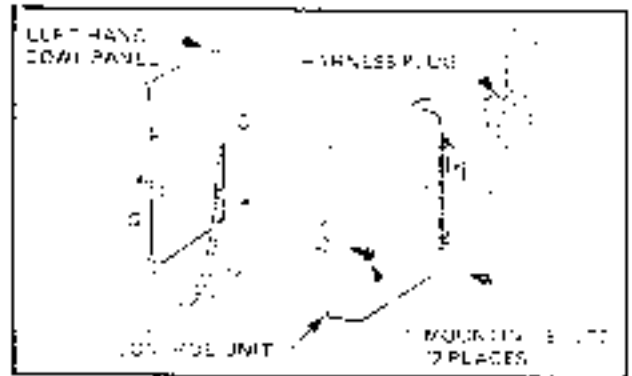

Figure 6C-96
4. Disconnect the wiring harness plug from the control unit by pulling up tang and swing harness out from control unit. Refer Fig. 6C-98A.